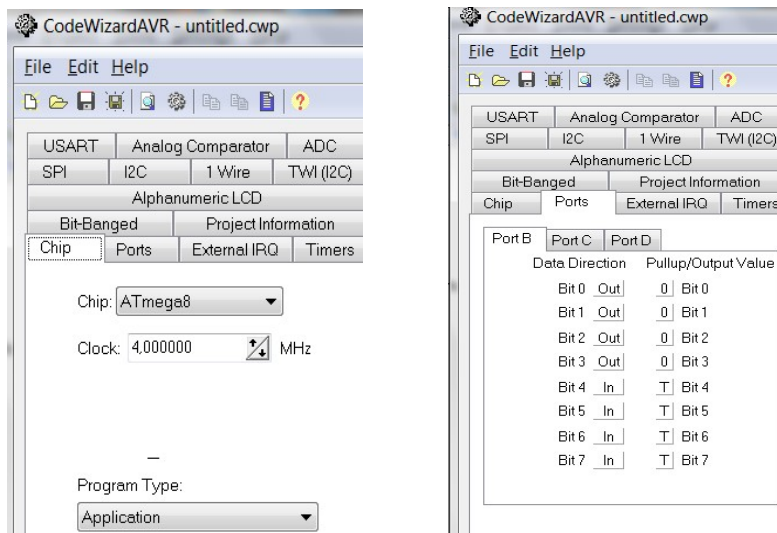

Figure 3.5 AVR Code Wizard page
2. On port B can be seen in Figure 3.5 below.